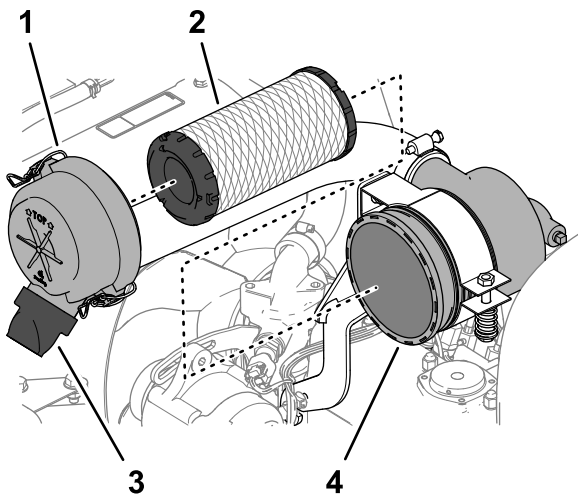

Figure 76
3. Release the latches that secure the air-cleaner cover to the air-cleaner body (Figure 76).
6. Remove the filter element (Figure 76).
7. Remove the rubber outlet valve (Figure 76) from the dirt ejection port of the air-cleaner cover.